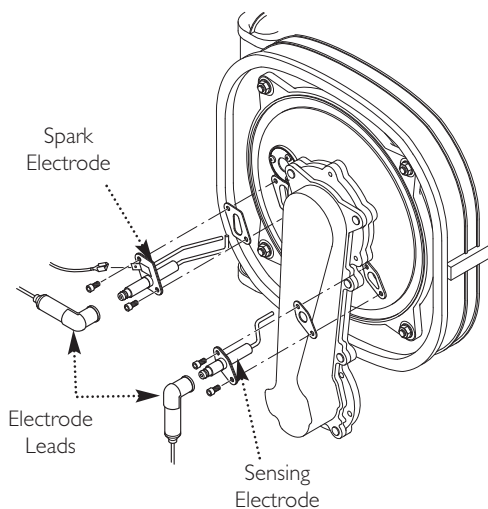

Fig. 53
13.2 Spark and Sensing Electrodes (Fig. 53)